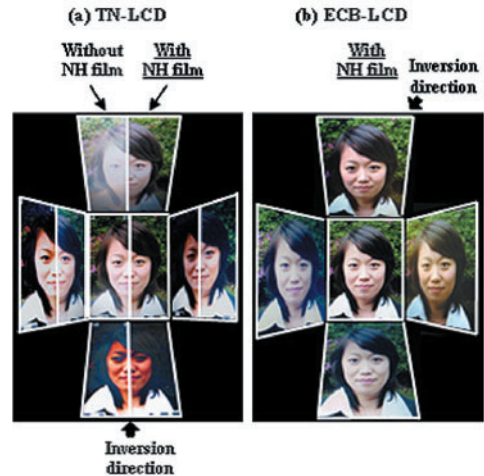

FIGURE 9 — Comparison of image qualities of a TN- and ECB-LCD (I) with NH film at oblique angles.
As shown in Fig. 9, it was confirmed that the transmissive ECB-LCD with new NH film can display vivid color and clear images in both the horizontal and vertical directions. Although the viewing-angle range ($CR > 10$) of the ECB-LCD (I) exceeds 160° in the diagonal directions, it reaches only 120° in the horizontal and vertical directions due to the light leakage from the crossed polarizer in the off-axis. This problem can be solved by inserting the uniaxial film 2 into the ECB-LCD (I).
Figure 9 shows examples of parts of projected images on each stage; the image modulated only by RGB signals, the image modulated only by a Y signal, and the total image with double modulation. The image modulated only by RGB signals appears blurred because of the low resolution of the RGB signals and relay lens. However, the resolution of the output image with double modulation is high. These photographs prove that a high-resolution color image is obtained only if the resolution of the Y signal is high.
FIGURE 9 — Examples of parts of projected images. Upper left – image modulated only by RGB signals (low resolution). Upper right – image modulated only by a Y signal (high resolution). Lower – output image with double modulation.